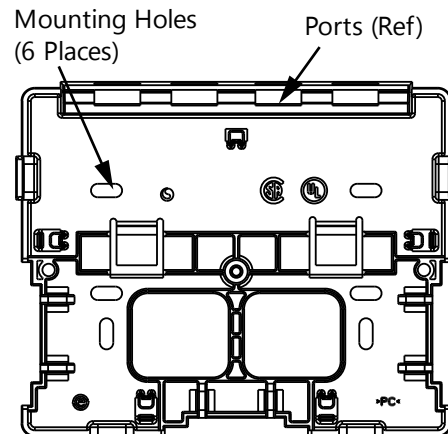

Figure 3
1. Position the module base on the flat surface at the desired location. Mark holes on the surface using the mounting holes of the module base, then remove the module base. Refer to Figure 3.